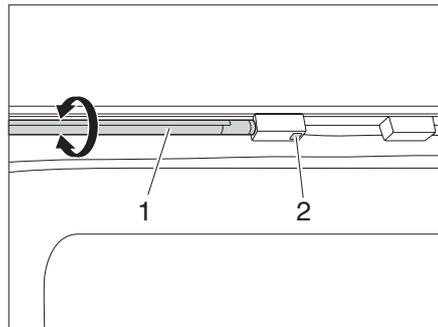

Fig. 45 LED light strip
- ▶ Switch the LED light strip (Fig. 45,1) on/off at the switch (Fig. 45,2).
- ▶ Grasp the LED light strip (Fig. 45,1) at the light fixture and turn it.